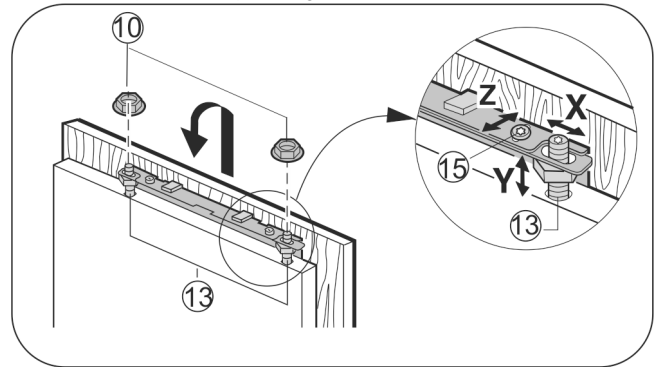

Fig. 23
- ▶ Attach the unit door on the adjusting bolts Fig. 23 (13) and loosely screw locknuts Fig. 23 (10) onto the adjusting bolts.
- ▶ To align the unit door in the Y direction (height) and in lateral inclination: Adjust the adjusting bolts Fig. 23 (13) with a screwdriver.
- ▶ Tighten the locknuts Fig. 23 (10).